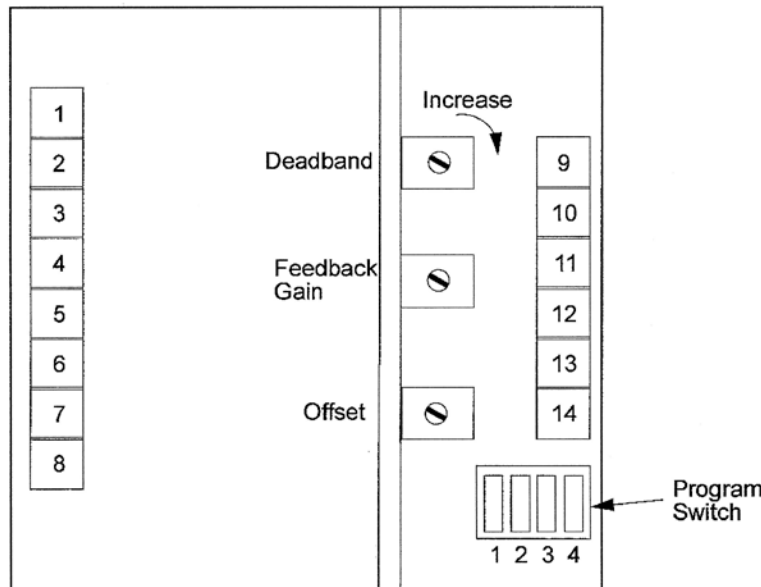

Figure 8
- 1 Figure 8 shows the location of DIP switches and adjusting potentiometers.